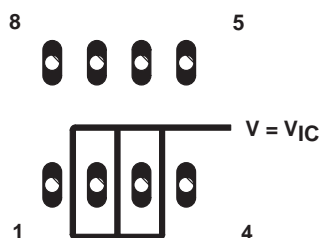

Figure 95. Isolation Metal Around Device Inputs (P package)
- Isolate the device from other potential leakage sources. Use a grounded shield around and between the device inputs (see Figure 95). Leakages that would otherwise flow to the inputs are shunted away.
Because of the extremely high input impedance and resulting low bias-current requirements, the TLV2341 is well suited for low-level signal processing; however, leakage currents on printed-circuit boards and sockets can easily exceed bias-current requirements and cause a degradation in device performance. It is good practice to include guard rings around inputs (similar to those of Figure 95 in the Parameter Measurement Information section). These guards should be driven from a low-impedance source at the same voltage level as the common-mode input (see Figure 101).